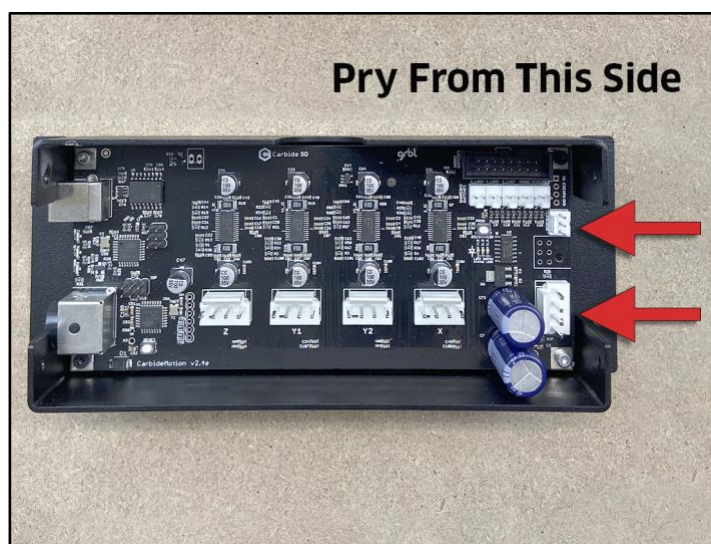

Figure 3
6. Gently pry the board away from the enclosure with your fingers. Pry from the **FRONT** end (opposite the USB and power ports) as shown in **Figure 3**. If you're having trouble getting the board out, use an ESD flat head screwdriver or suitable implement to gently pry away. Do not remove the old thermal tape unless instructed to do so.